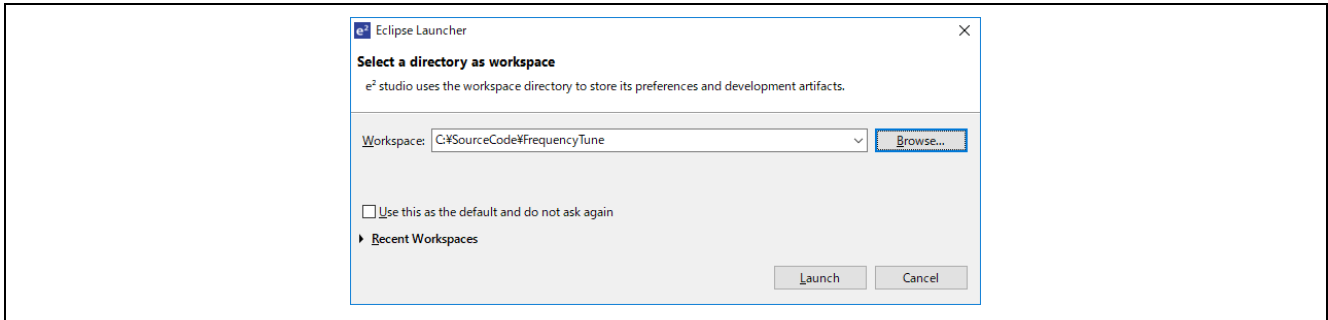

Figure 6-1. Launch e²studio
3. Launch e²studio (Figure 6-1)